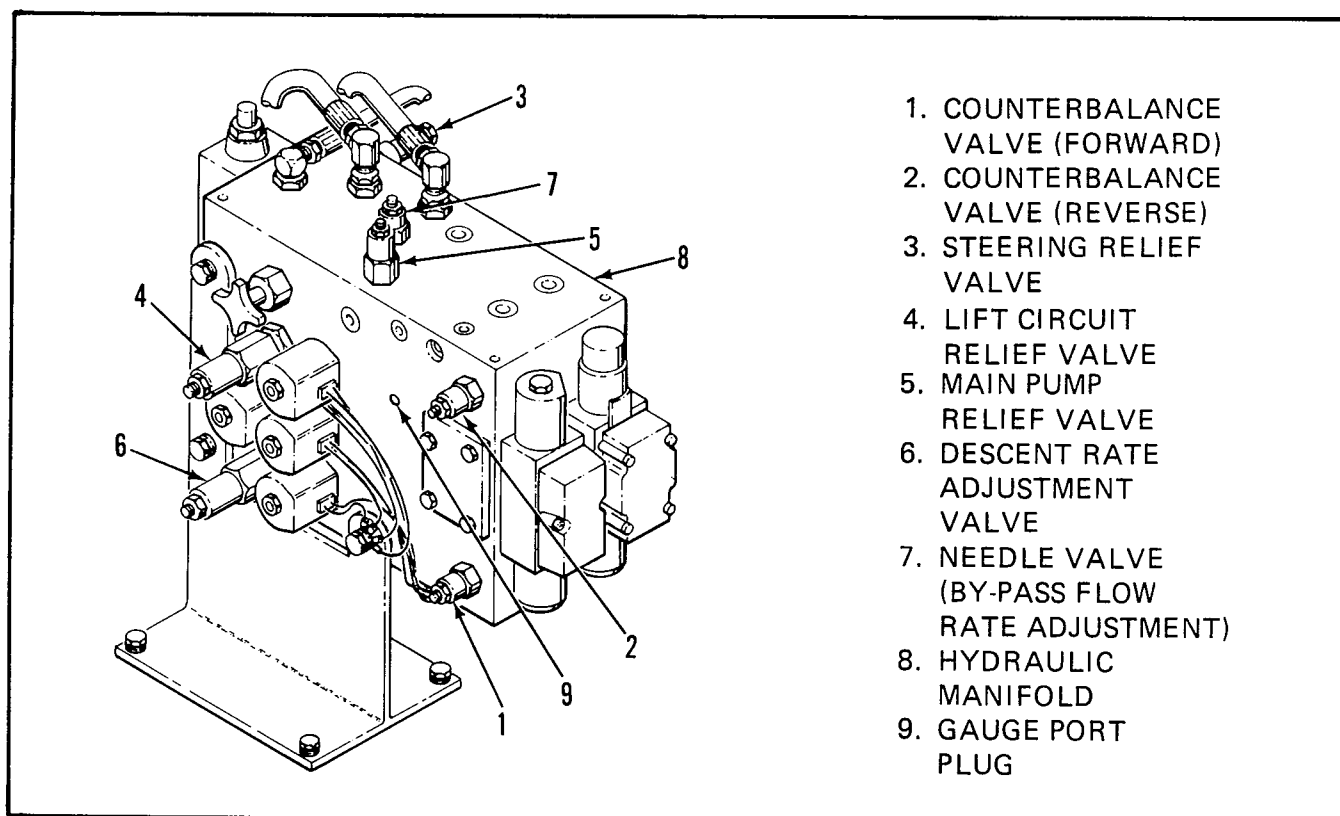
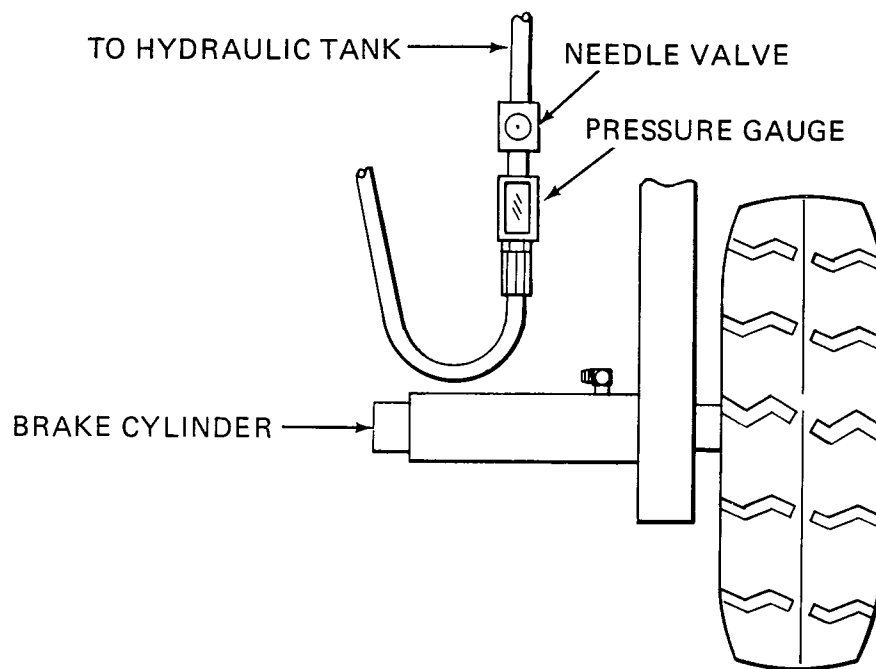

Figure 5-7. Hydraulic Pressure Adjustment
Figure 5-8. Counterbalance Valve Adjustment
5-16. SETTING HYDRAULIC PRESSURES. (See Figure 5-7)
(1) Operate the hydraulic system 10-15 minutes to warm the oil.
(2) Remove the plug (9, Figure 5-7) in the Gauge Port and install a 0-3000 psi gage.
(3) Disconnect one of the quick-disconnect connectors in the Lift Limit Switch wires (located between manifold and terminal).
(4) Loosen the locknut on the Main Pump Relief Valve (5, Figure 5-7) and unscrew the adjusting screw several turns.
(5) Position the Lift Switch to "UP" and hold it there.
(6) Slowly screw the adjusting screw in to increase the pressure to 2950 psi, then tighten the locknut.
(7) Reconnect the Lift Limit Switch wire.
(1) Remove the Gauge Port Plug (9, Figure 5-7) and install a 3000 psi pressure gage, or if the main relief valve has just been adjusted leave the gage connected.
(2) Operate the hydraulic system 10 to 15 minutes to warm the hydraulic oil.
(3) Position a 750 lb. load (XL-14) or a 550 lb. load (LX-19) centered on the platform.
(4) Position the mode switch to LIFT.
(5) Position the lift switch to UP and hold it here and observe the pressure gage.
(6) Loosen the locknut on the lift circuit relief valve (4) and screw the adjusting screw OUT to lower the pressure setting to 2000 psi.
(3) Position the mode switch to DRIVE.
(4) Position the steer switch to LEFT and hold it there. Observe the pressure gage as the steer cylinder bottoms.
(5) The gage should read 1300 psi for the XL-14 and 1750 psi for the XL-19 with the cylinder bottomed. If not, loosen the locknut on the steering relieve valve (3, Figure 5-7).
(6) Back the adjustment screw OUT several turns and then slowly turn the screw IN until the appropriate pressure is reached.
(7) Release the steering switch and remove the test set from the steering circuit.
(8) Reconnect the steering cylinder hose and operate the steering system to expel trapped air and check for leaks.
d. Counterbalance Valve. (see Figures 5-8 and 5-9).
(1) Disconnect the hydraulic hose from the brake cylinder and connect a pressure gage and needle valve with a return line to the hydraulic tank (Figure 5-8).
(3) Remove the adjusting caps from the counterbalance valves (1 and 2, Figure 5-7).
(5) Position the mode switch to DRIVE.
(6) Position the drive controller to FORWARD.
(7) Close the needle valve on the brake hose.
(8) Adjust the REVERSE counterbalance valve (2, Figure 5-7) by turning the adjustment screw OUT until the pressure gage indicates 700 psi, then slowly turn the screw IN until the gage indicates 500 psi. Lock adjustment with locking cap.
(9) Position the drive controller to REVERSE.
(10) Adjust the FORWARD counterbalance valve by turning the adjustment screw OUT to achieve 700 psi, then slowly turning the screw IN to reach 500 psi. Lock the adjustment with the lock cap.
(11) Return the drive controller to NEUTRAL.